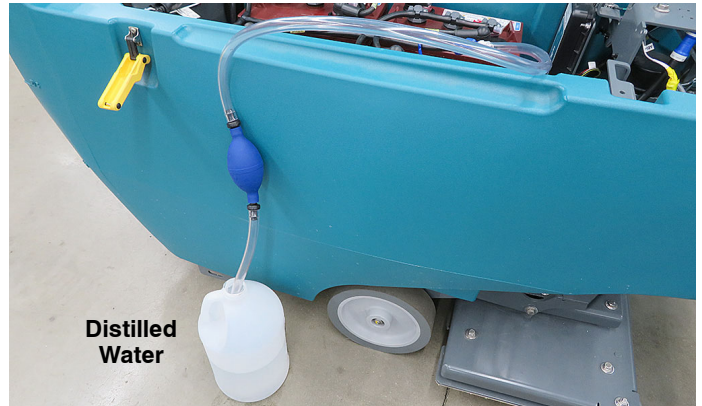

FIG. 5
4. Submerge the other end of the hand pump hose into a bottle of distilled water (Figure 5).